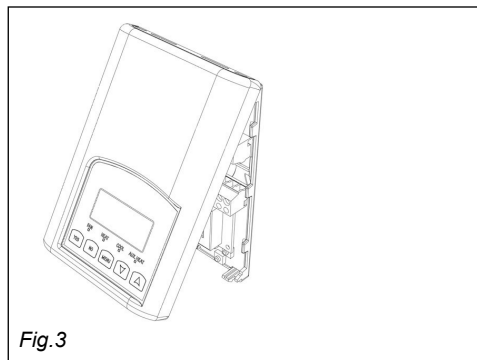

Fig. 3
- Remove Assembly and remove wiring terminals from sticker. **(Fig. 3)**